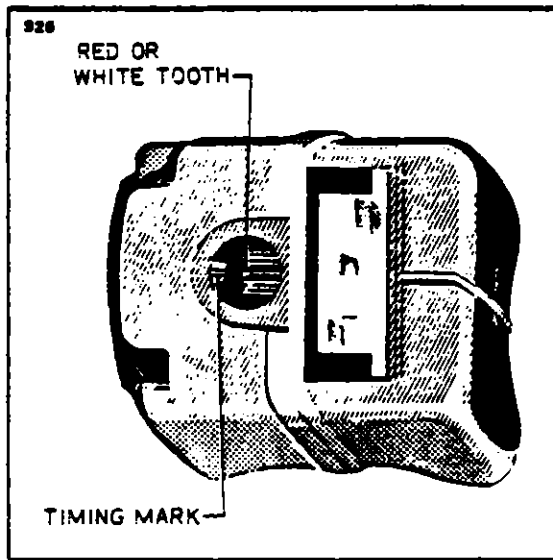

FIGURE 7-11. MAGNETO TIMING MARKS
- c. Rotate coupling from neutral, in a left hand direction  $10^\circ$ , appearing through timing hole, when the white or red tooth aligns with the white line of the distributor block, the magneto is set at "E" gap. (Refer to Figure 7-11.) Alignment may not vary over  $+4^\circ$ .